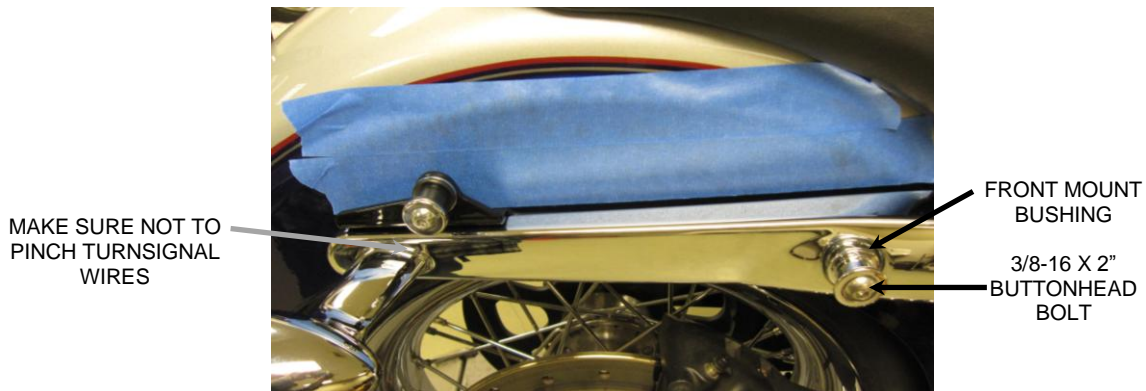

FIGURE 3
8. Insert the 3/8-16 x 2" button head bolt through the supplied front mounting bushing, through the front frame rail hole, through the mount bracket and into the inner nut plate. Snug the bolt making sure the front boss of the nut plate inserts through the hole in the mount bracket and into the frame rail. **DO NOT TIGHTEN** front bolt at this time. See **FIGURE 3**.
9. Push down on the rear of the mount bracket to make sure it is aligned with the rear turn signal bolt and tighten the bolt. Make sure the turn signal wire is going through the clearance hole in the mount bracket and is not getting pinched. See **FIGURE 3**.